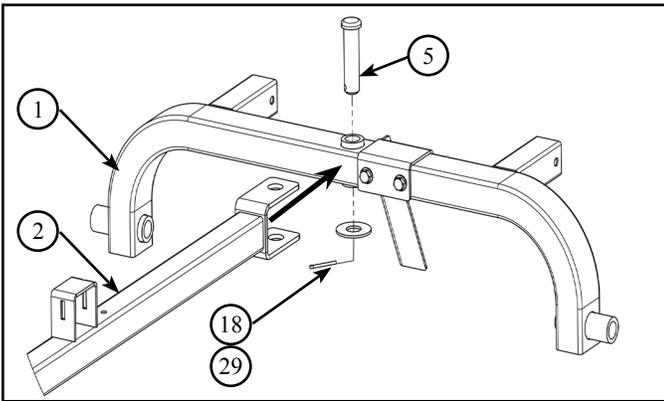

Figure 3.6 - Tow Bar/Axle Frame
1. Slide the tow bar (2) onto axle frame (1), align with pivot hole. Refer to Figure 3.6
2. Insert pivot pin (5) through the top of the tow bar and axle frame. Refer to Figure 3.6
3. Secure pivot pin with washer (18) and cotterpin (29), use pliers to bend the cotter pin ends to secure. Refer to Figure 3.6